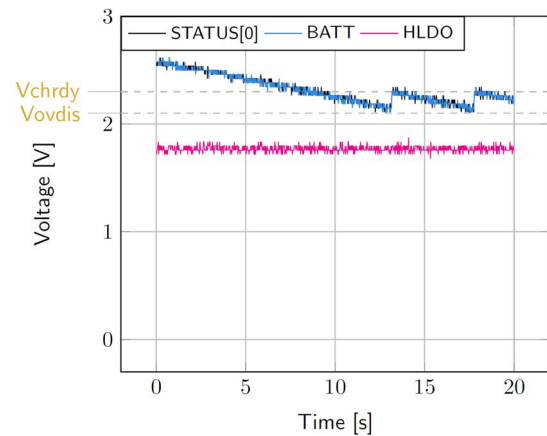

Figure 5: Switching from **SRC** to the primary battery
- **BATT**: Voltage decreases as the system consumes the power accumulated in the storage element. The voltage reaches V_{OVDIS} and then rises again to V_{CHRDY} as it is recharged from the primary battery (see Figure 5).
- **STATUS[0]**: Never de-asserted as the LDOs are still functional (see Figure 5).
- **HVOUT**: Stable and not affected by switching on the primary battery (see Figure 5).